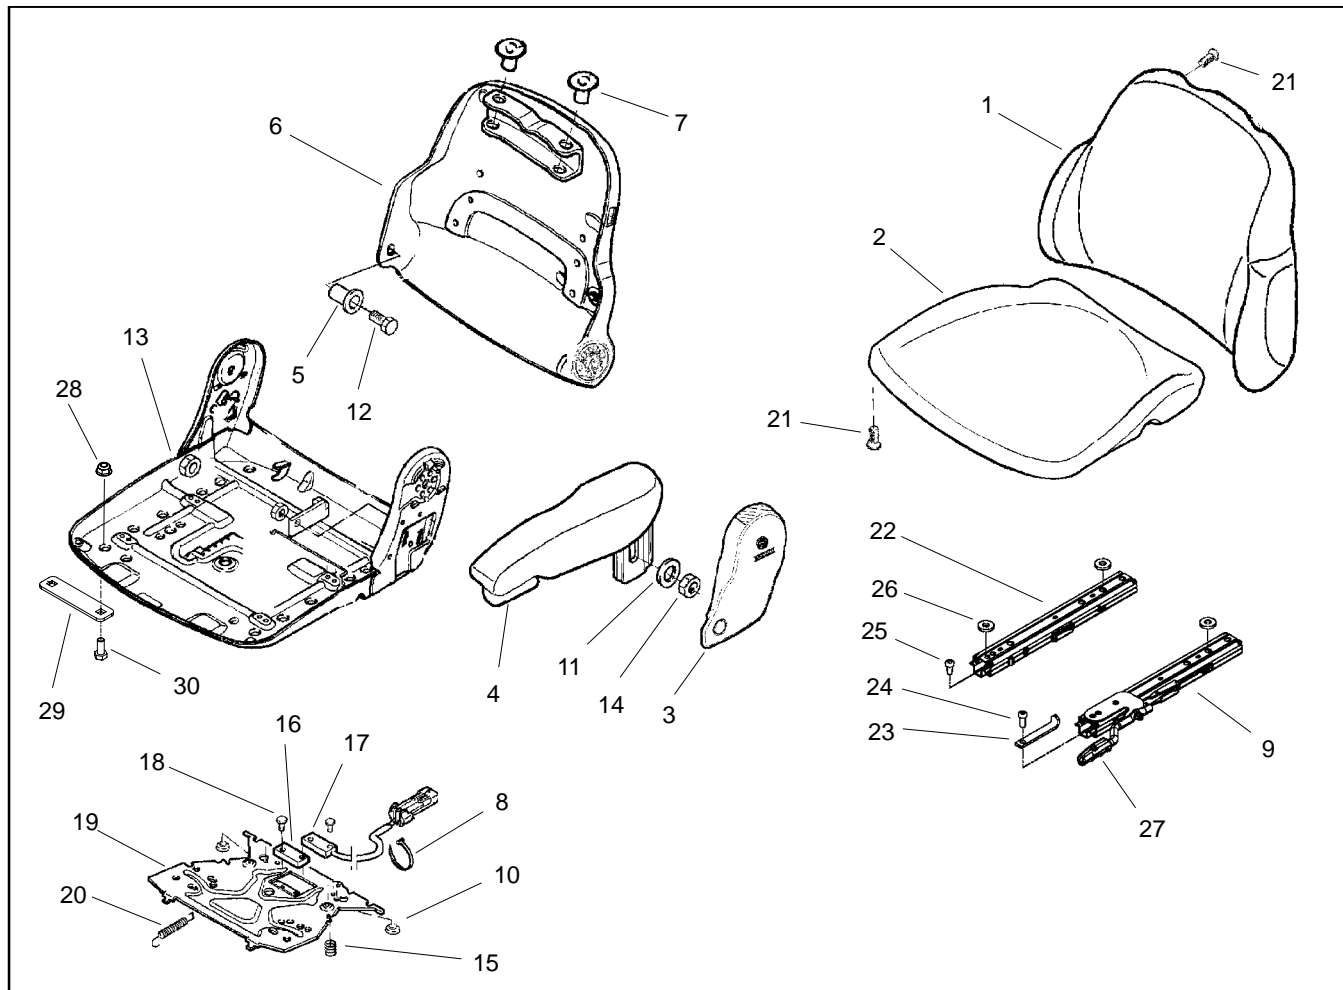

Figure 8
Disassembly (Fig. 8)
1. Disassemble operator seat as necessary using Figure 8 as a guide.
Assembly (Fig. 8)
1. Assemble operator seat using Figure 8 as a guide.